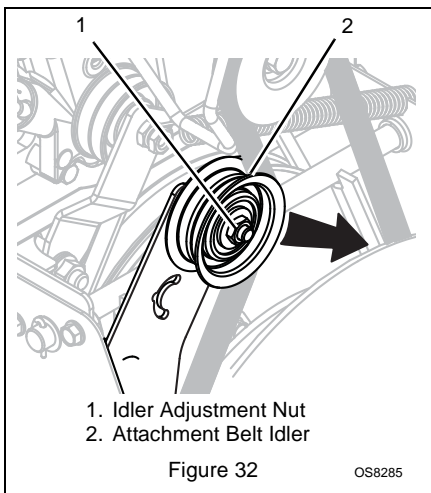

Figure 32
- If roller is less than $\frac{1}{2}$ in. (12.7 mm) from frame, loosen idler adjustment nut and move idler closer to the belt. Tighten adjustment nut and recheck the roller clearance (Figure 32).
- If roller is more than $\frac{7}{8}$ in. (22.2 mm) from frame, loosen idler adjustment nut and move idler away from the belt. Tighten adjustment nut and recheck roller clearance (Figure 32).